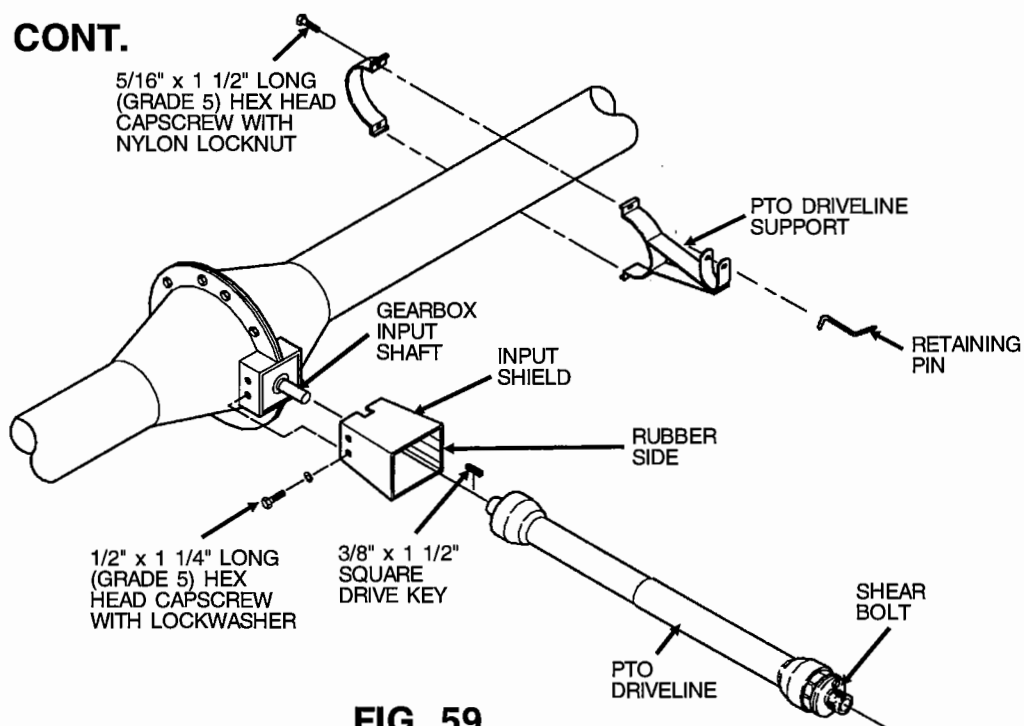

FIG. 59
Step 1. Attach PTO driveline to gearbox input shaft by using 3/8" x 1 1/2" long square drive key. See Fig. 59 on the following page. Place setscrews properly, then tighten. See Fig 58.
- Step 3. Slide input shield over the PTO driveline and fasten to the drive housing using two 1/2" x 1 1/4" long (grade 5) hex head capscrews with lockwashers. See Fig. 59.
- Step 7. Install the input shield to cover the PTO driveline to gearbox shaft connection. See Fig. 59 on page 41.
- Step 8. Remount the PTO driveline support onto the other side of the tube. See Fig. 59 on page 41.